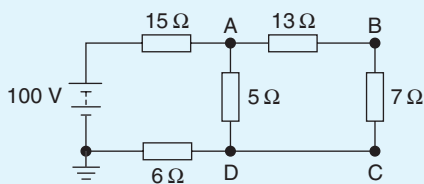

Figure 5.37
- For the circuit of Fig. 5.37, calculate (a) the absolute voltage at points A, B and C, (b) the voltage at A relative to B and C, and (c) the voltage at D relative to B and A.